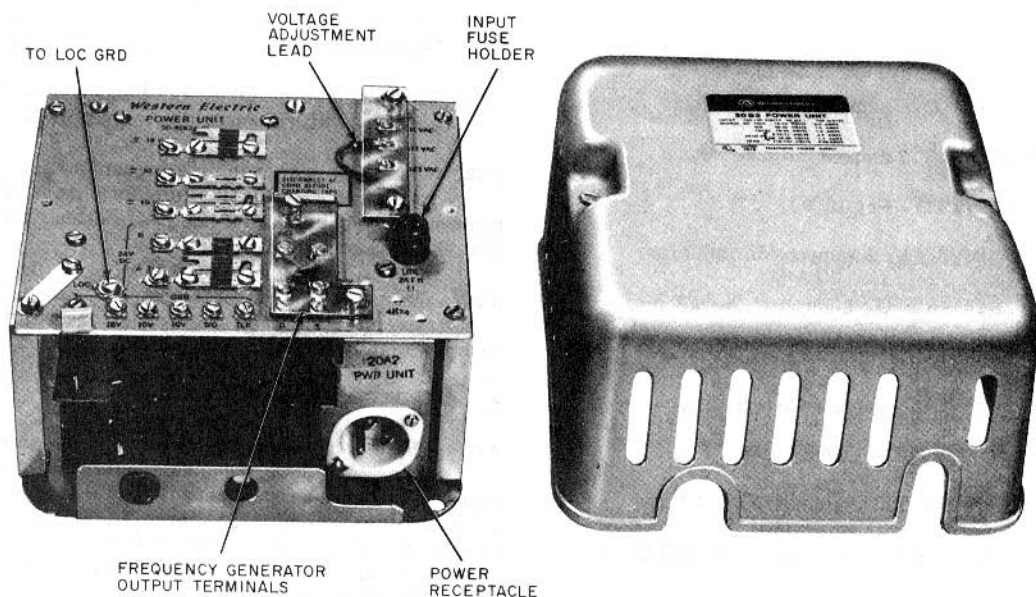
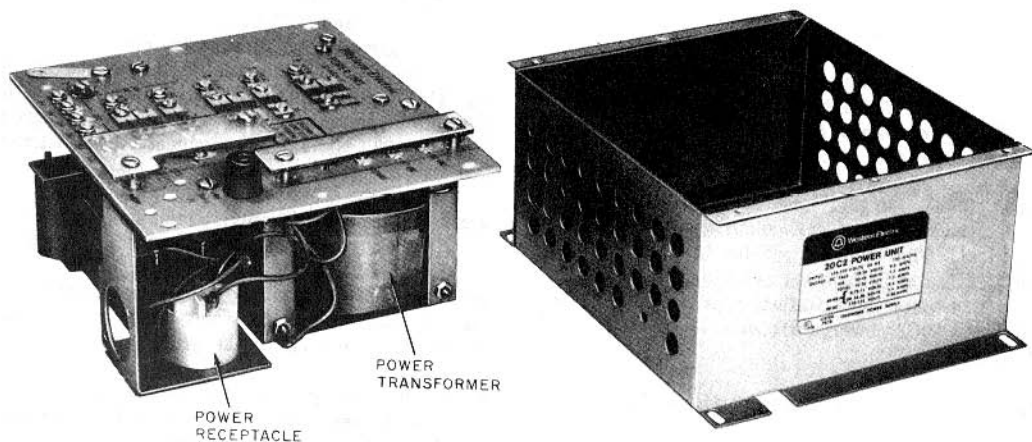

Fig. 3—20B2 Power Unit (Wall Mounted) Cover Removed
Fig. 4—20C2 Power Unit (Rack Mounted) Enclosure Removed to Show Power Receptacle
20B2—20A2 with hardware and cover for wall mounting (see Fig. 3)
20C2—20A2 with hardware for mounting in a Key Service Unit or relay rack (see Fig. 4).
**2.03** The power units are equipped with a parallel blade ground receptacle. A 3-conductor power cord with male and female standard 3-prong plugs is available for connection to the input receptacle in the power unit (see Fig. 3 and 4). The cords are available in the following lengths and should be ordered separately:
- (1) Fasten the backboard plate assembly, P33A830, to the wall as covered in Section 463-130-200, or in accordance with local instructions.
- (2) Hang the power unit on the backboard and secure it with the machine screws provided.
- 3.03** The 20C2 power unit is mounted on an equipment rack using the four mounting holes on the metal enclosure (Fig. 4). Fasten with the machine screws provided.
- 4.03** Place wiring (supplying telephone equipment) through the plastic grommet at the bottom of the 20B2 unit (Fig. 3) and through the slot provided on the mounting flange on the 20C2 unit (see Fig. 4). Dress the wires along the left side of the panel and below the ground terminals.